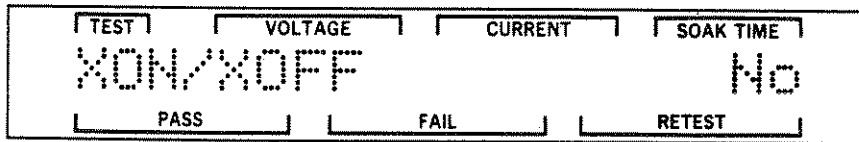

Figure 7-49. XON/XOFF Screen
STEP 18. Press the DOWN pushbutton once to display the XON/XOFF screen. Figure 7-49 is an example of this screen.